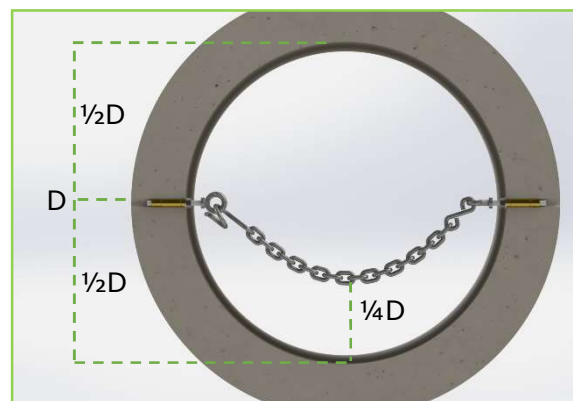

Figure 4
1. Drill Holes for anchors in position detailed in Figure 4. Using an 16mm masonry bit drill to at least 80mm depth in positions as illustrated below
3. Tighten nut to a suitable level of torque with approximately 15mm of exposed thread past the nut on each side, adjust eye bolt (and tighten nut) if required to meet  $\frac{1}{4}D$  dimension shown below in Figure 4.